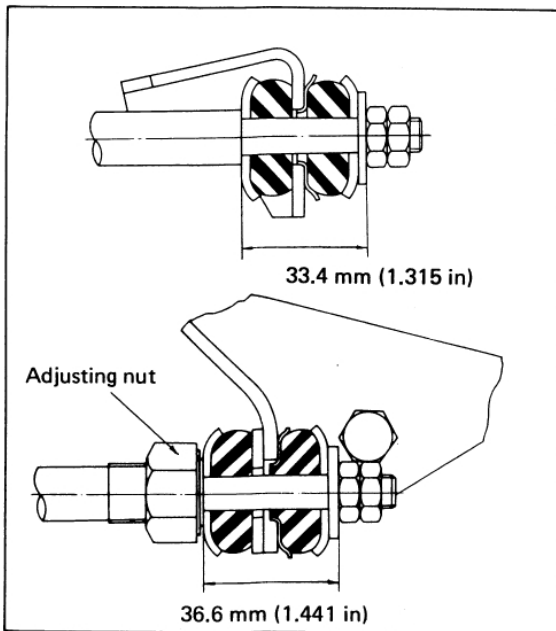

Fig. FA-31 Tension rod installation
- (1) Tighten nut on the rear end of tension rod to obtain an extent that rubber bushings are compressed into 33.4 mm (1.315 in) as shown in Figure FA-31, and tighten lock nut.
- (2) Install tension rod bracket on frame bracket.